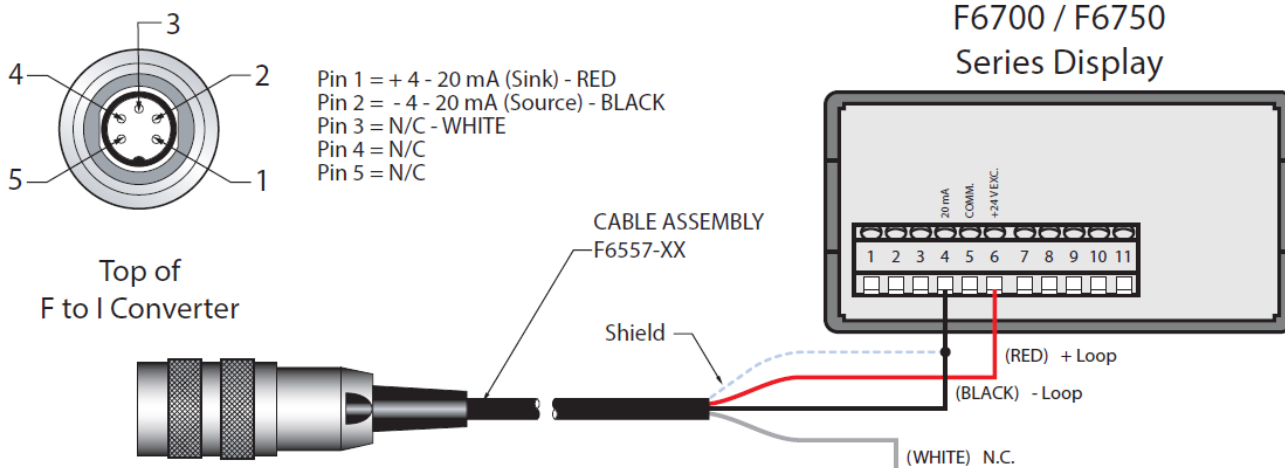

Figure 3: Flo-tech IFC flow sensor wiring
1. Connect the RED wire of the F6557 cable to terminal 6 (+24 V EXC) on the F6700 series display. See Figure 3.